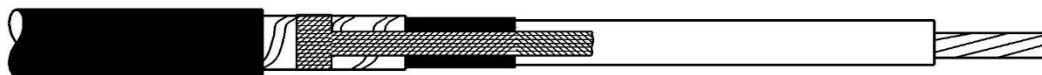

Figure 16
3. Fold the braid over itself at 45 degrees, bringing the long end parallel with the cable. Refer to Figure 16.